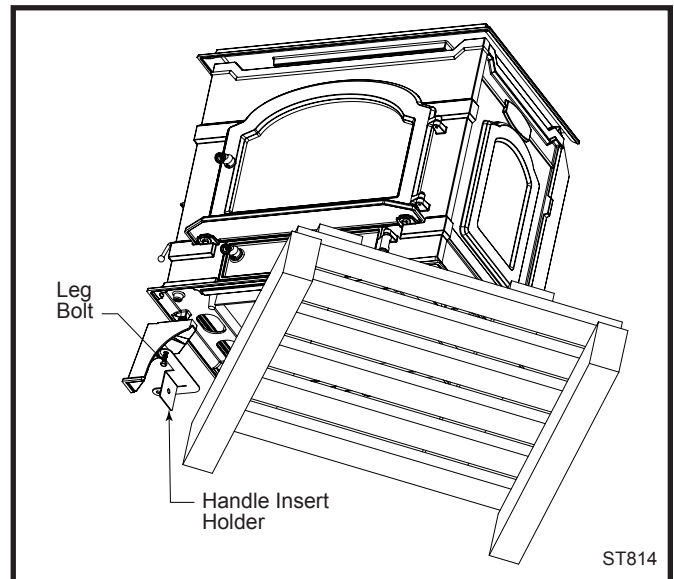

Fig. 25 Rotate stove on pallet to expose front left corner.
2. Rotate the stove counterclockwise until the front left corner overhangs the pallet and the leg-mounting hole is accessible. (Fig. 25)
3. Remove and discard the (4) 1/4-20 x 3/8" hex head bolts that are in the leg holes on the bottom of the stove.